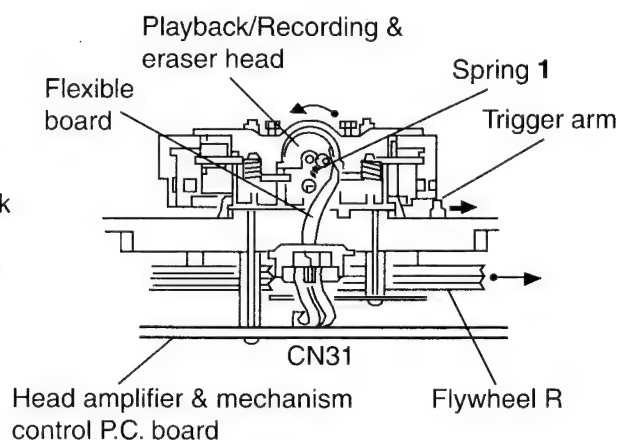
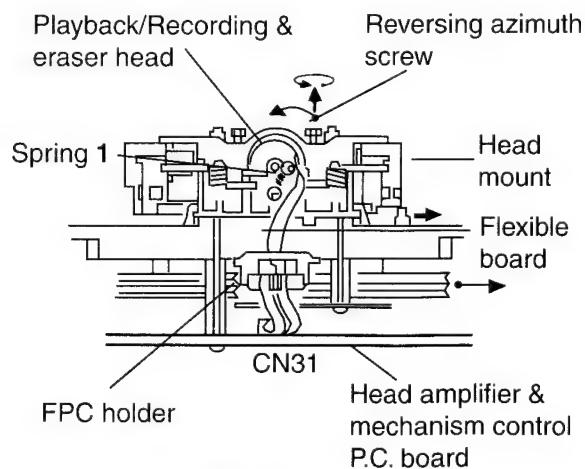

Fig. 2
Fig. 3
2. When the flywheel R is rotated in counterclockwise direction, the Playback/Recording & Eraser head will be turned in counterclockwise direction from the position in Fig. 2 to that in Fig. 3.
■ Reassembling the Playback/Recording & Eraser head (See Fig.3)
1. Reassemble the playback head from the front of the head mount to the position as shown in Fig. 3.
4. Attach the flexible P.C. board to the chassis base, and fix it with the FPC holder as shown in Fig. 3.